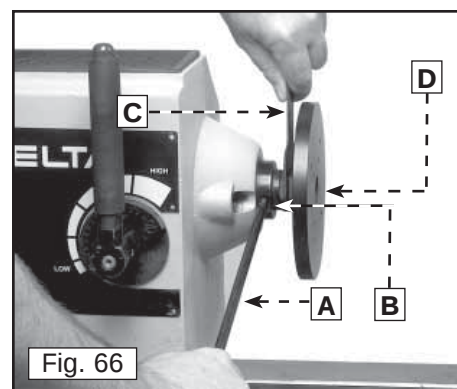

Fig. 66
3. If the faceplate is already on the headstock, remove it by inserting the knockout bar (A) Fig. 66 in the side hole of the spindle (B) Fig. 66 to hold the spindle in place. Use the supplied wrench (C) Fig. 66 to loosen the faceplate. Remove the faceplate (D) by turning it counterclockwise with your hand.